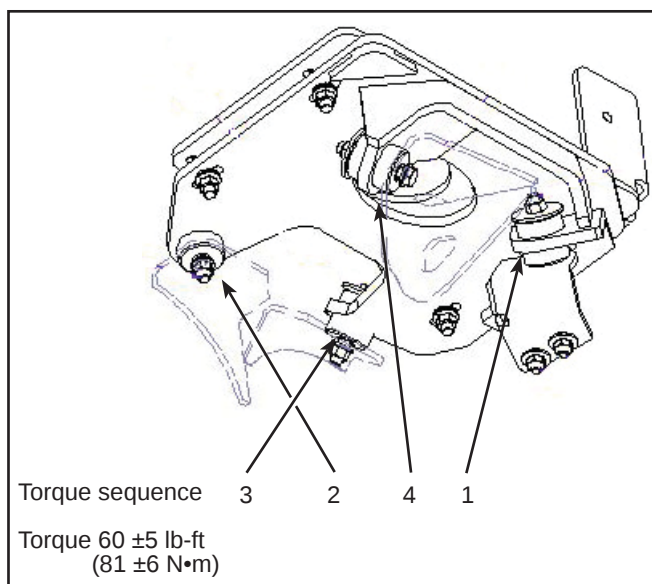

Figure 3 - Rubber Mounts Torque Sequence
- 1.6. Apply specified torque and torque sequence. See Figure 3.